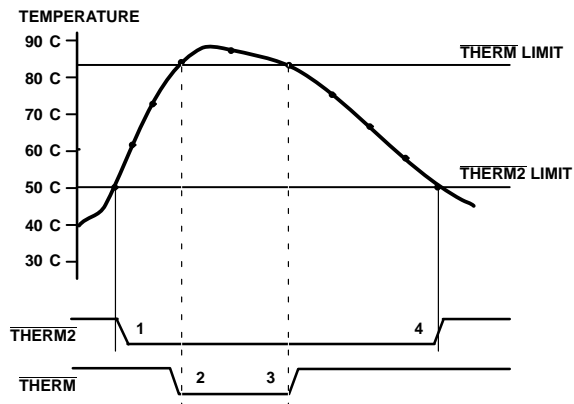

Figure 20. Operation of the $\overline{\text{THERM}}$ and $\overline{\text{THERM2}}$ Interrupts
- The $\overline{\text{THERM}}$ output deasserts (goes high) when the temperature falls to $\overline{\text{THERM}}$ limit minus hysteresis. In Figure 20, there is no hysteresis value shown.